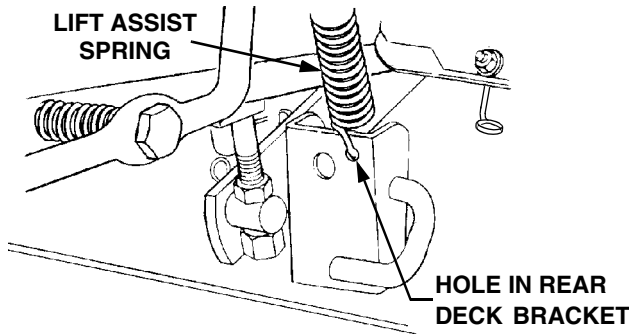

Figure 56
- Install the lower hook of the lift assist spring into the hole in the right rear deck bracket (See Figure 56).